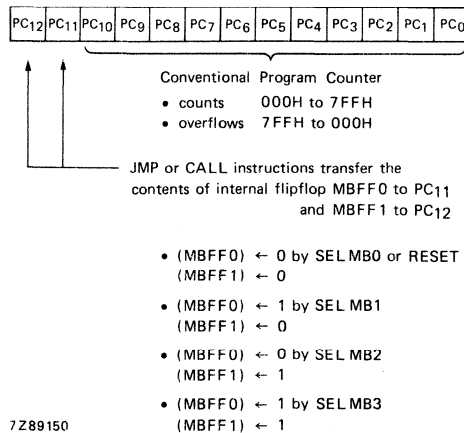

Fig. 22 Program counter.
**Program counter** (see Fig. 22)
The 13-bit program counter is able to address 8 K bytes of ROM. The arrangement of the bits is shown in figure 22. During an interrupt subroutine PC11 and PC12 are forced to logic 0. All 13 bits are saved in the stack during CALL and interrupt routines.